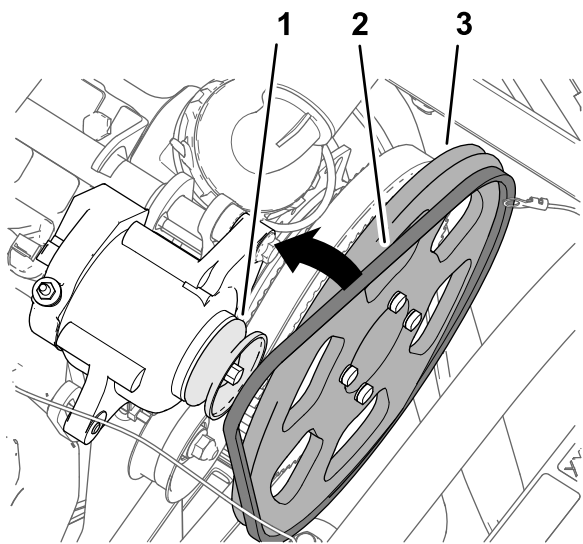

Figure 229
- Assemble the V-belt over the drive pulley 279 mm (11 inch) and the pulley of the alternator (Figure 229).